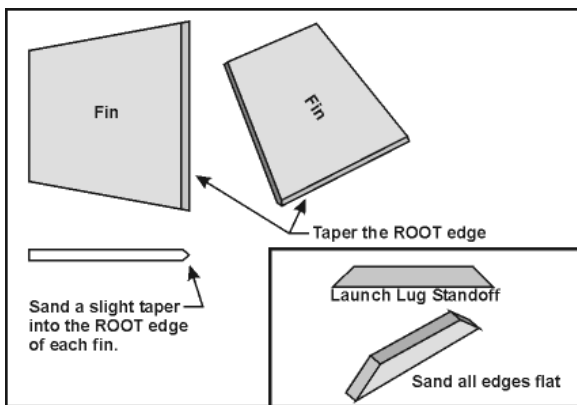

Figure 8
- Cut out the **Fin Pattern** and the **Launch Lug Standoff** pattern from the **Fin Pattern Sheet**. Use these patterns to cut out 3 **Fins** and 2 **Standoffs** from the provided Balsawood stock. Referring to **Figure 8**, sand a pointed taper to the **ROOT** edge of each fin. Sand the edges of the Standoff flat.